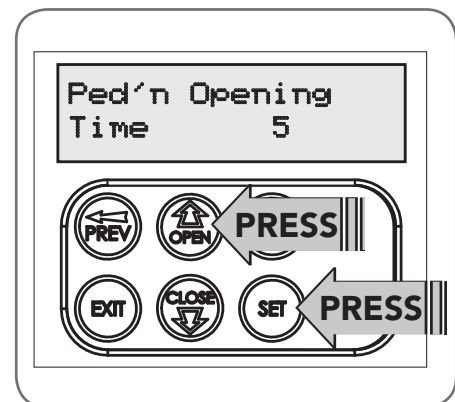

Fig 14.2
- Press OPEN to change the pedestrian access position time (**Fig. 14.2**).